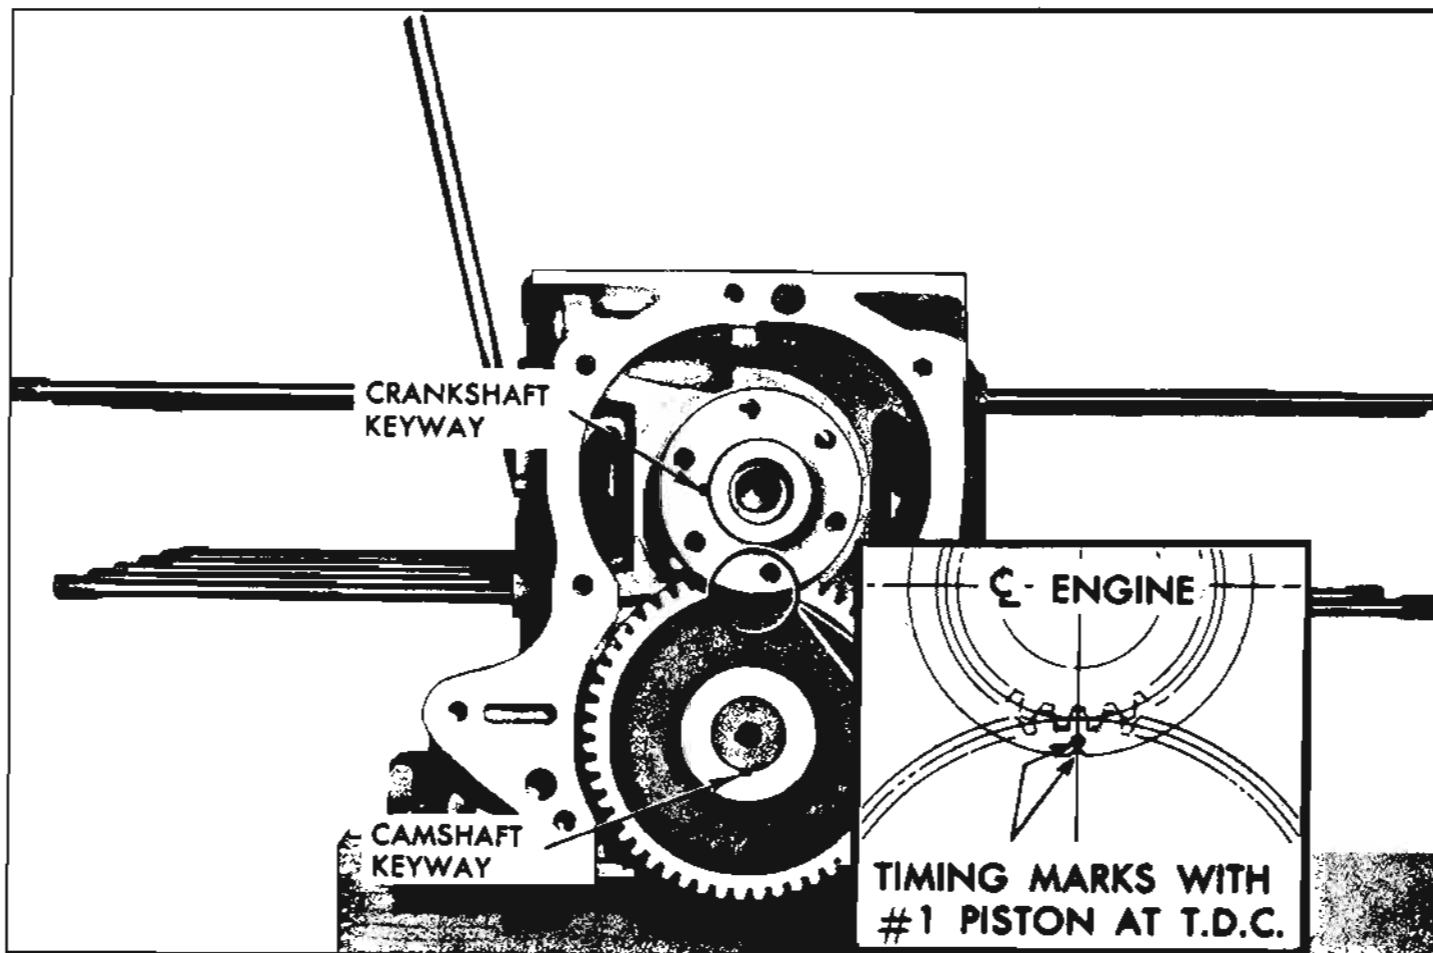

Fig. 6A-94—Timing Marks
10. Install other half of crankcase and main bearing assembly onto crankshaft and camshaft as shown in Figure 6A-51. Seal crankcase parting line ends with sealer. Install all crankcase bolts, flat washers and nuts. Torque the eight long bolts $\frac{1}{8}$ "-20, 42 to 48 ft. lbs. and one small bolt $\frac{3}{16}$ "-18, 7 to 13 ft. lbs. Figure 6A-82 shows crankcase tightening sequence.